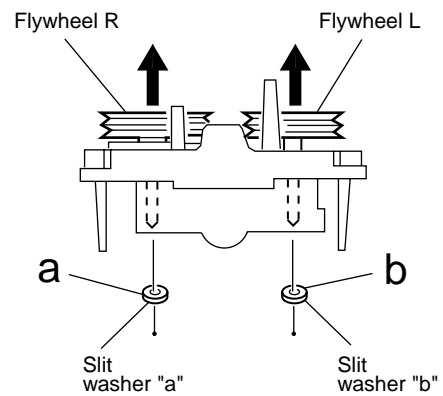

Fig.9
■ **Removing the flywheel (See Fig. 9 and 10)**